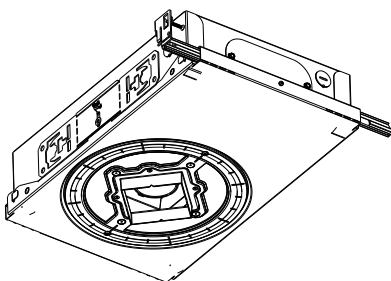

fig. 2
- c. Insert the inner hanger bar into the hanger bar slot on the end of the D2 housing. Make sure the screw is on top (see fig. 2).